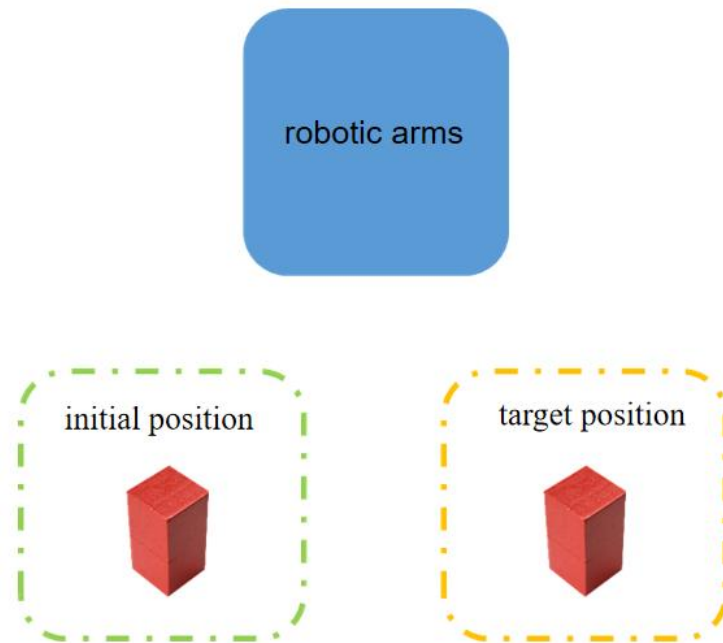

Figure 2.20 Experiment map
(1) Prepare Hardware
Step 1: Design the experiment map and place the equipment. Refer to Figure 2.20 for the experiment map.